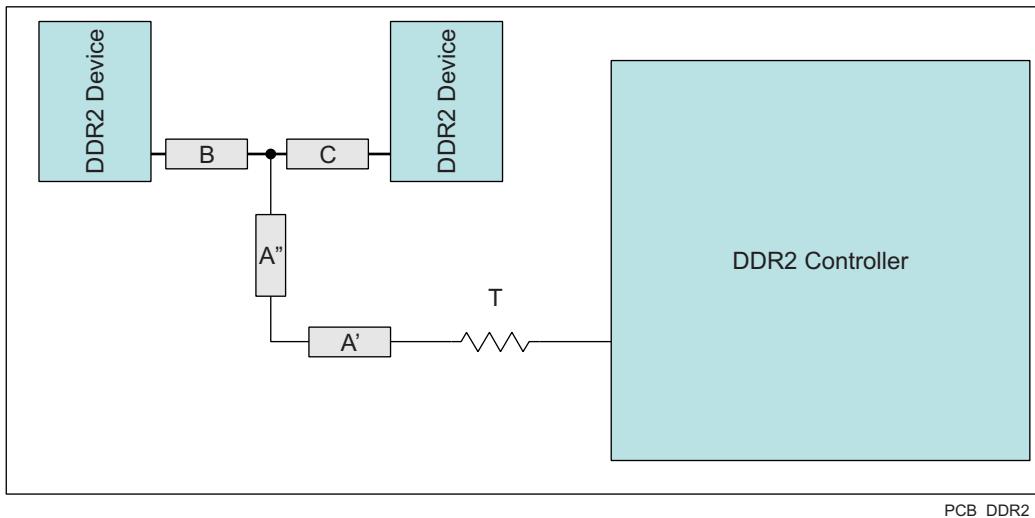

Figure 7-55. CK and ADDR_CTRL Routing and Topology
Figure 7-55 shows the topology of the routing for the CK and ADDR_CTRL net classes. The route is a balanced T as it is intended that the length of segments B and C be equal. In addition, the length of A = (A'+A'') should be maximized.
(1) The length of segment A = A' + A'' as shown in Figure 7-55.